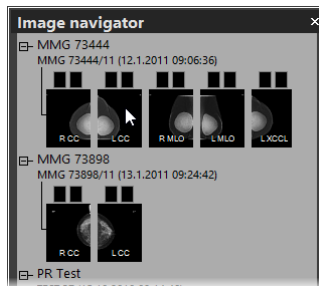

Figure 420 – Display image using the image navigator
2. Expand the selected mammography study and click the required image preview in the image navigator (see Figure 420).